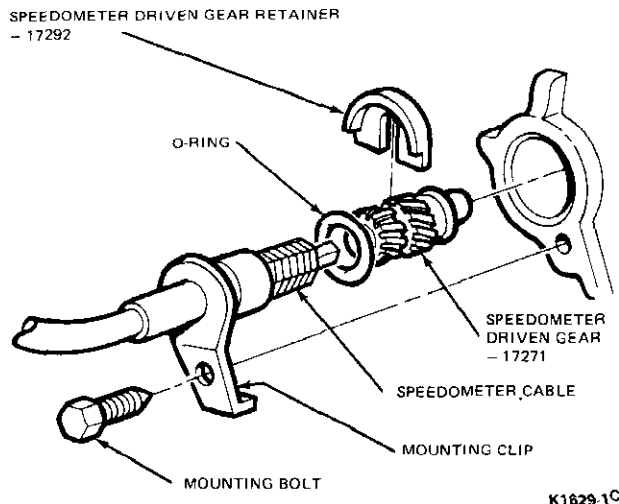

FIG. 2 Speedometer Cable to Transmission Mounting
4. Remove the shaft and driven gear from the transmission (Fig. 2). Remove the driven gear retainer, and remove the driven gear and shaft from the cable.
Disconnect the speedometer cable from the speedometer head and push the cable and grommet through the opening in the floor pan or dash panel. Raise the car on a hoist and disengage the cable from all retaining clips. Disconnect the cable from the transmission (Fig. 2). Remove driven gear and connect the new cable to the driven gear and the transmission. Engage the new cable in the retaining clips at the marker tapes on the cable housing and route it through the opening in the floor pan or dash panel. Push the grommet in place. Lower the vehicle. When reinstalling speedometer assembly, apply a 3/16 inch diameter ball of silicone damping grease in the drive hole of the speedometer head, and connect the cable to the head.